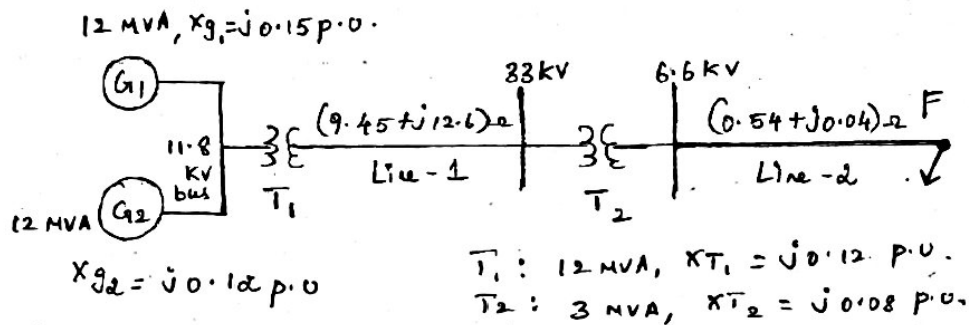

Fig. 13(a)
13. (a) For the radial network shown in Fig. 13(a) 3 Φ fault occurs at point F. Determine the fault current and the line voltage at 11.8 kV bus under fault condition.